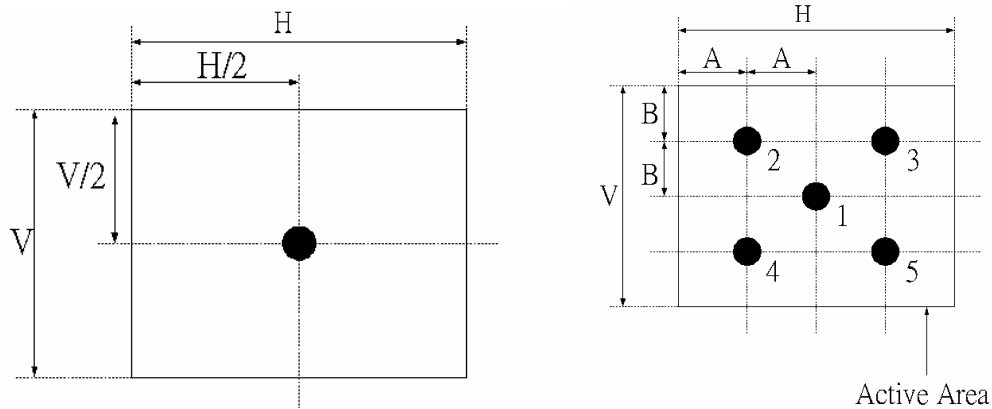

Fig.4-2 Optical measurement point
- Surface luminance is luminance value at point 1 across the LCD surface 50cm from the surface with all pixels displaying white. From more information see FIG 4-2. When $I_{BL} = 6.5\text{mA}$, $L_{WH} = 550\text{cd/m}^2(\text{typ.})$ $L_{WH} = \text{Lon1}$, Where Lon1 is the luminance with all pixels displaying white at center 1 location.